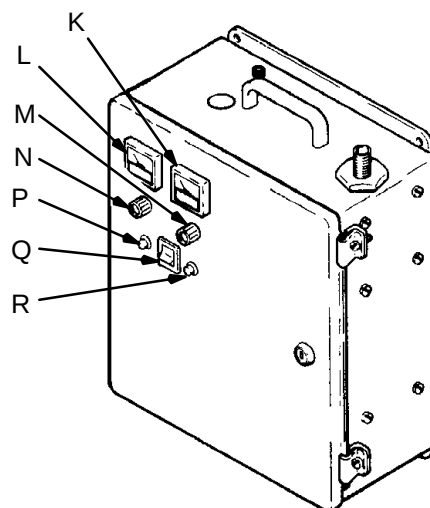

Fig 6
1. Set the sensing current control (N) on the power supply to the maximum position by turning it clockwise. See Fig 6.
2. Set the spraying voltage control (M) on the power supply to the maximum position by turning it clockwise.
4. Turn on the line power switch (Q). If the power supply and system are operating properly, the line power on light (P) will glow. Any other lights connected to the remote line power circuit will also glow.
5. Turn on the spraying voltage by triggering the gun. If the power supply and system are operating properly, the spraying voltage on light (R) will glow. Any other lights connected to the remote spray voltage light circuit will also glow.
Adjust the spraying voltage to the desired level while the system is spraying. Turn the spraying voltage control (M) on the power supply clockwise to increase the voltage and counterclockwise to decrease it. Refer to Fig 6.
The sensing current control (N) is a device for shutting off the spraying voltage. Turn the control clockwise to decrease the sensitivity and counterclockwise to increase it. Refer to Fig 6. To adjust the control, follow these steps:
1. Turn off the line power switch (Q). See Fig 6.
3. Turn the spraying voltage control (M) counterclockwise to the minimum voltage setting. See Fig 6. Leave the sensing current control (N) set at its normal operating position for your installation.
4. Turn on the line power switch (Q). See Fig 6.
6. Slowly turn the spraying voltage control (M) clockwise to the maximum voltage setting.
7. With the spraying voltage control (M) at maximum, turn the spraying voltage on and off several times.